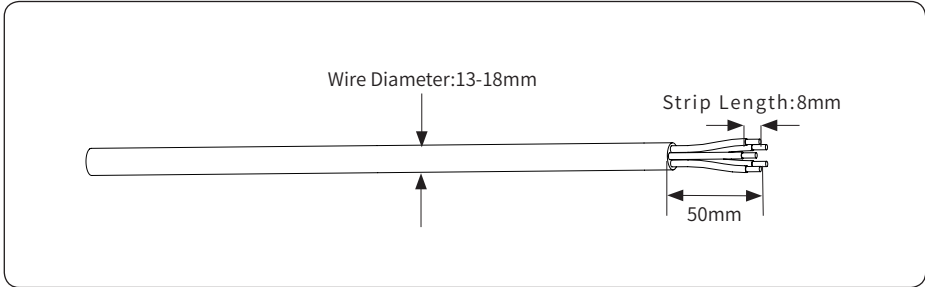

Figure 4-14
2) According to the table above, select an appropriate copper cable, peel the insulation sleeve of AC cable off for 50mm, and peel off the end of 3L /PE / N wires for 8mm, as shown in Figure 4-14: